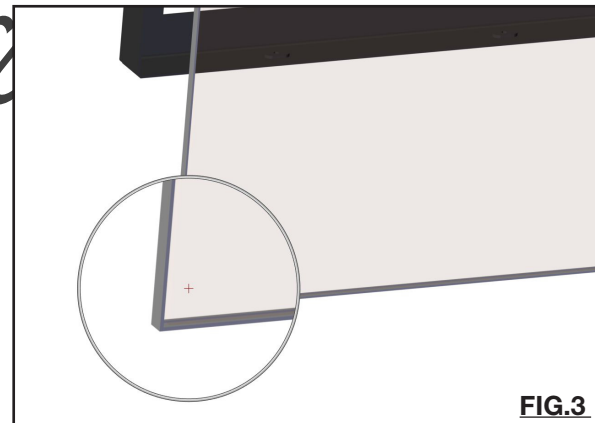

FIG.3
- E. Center and apply gasket to the edge of glass. Ensure gasket is a continuous loop around the perimeter of the replacement glass. **(FIG. 3)**
- C.** Remove screws from lower side brackets and remove the side upper panels (FIG.3)
- D.** Slide top panel into smoke chamber and install the 4 brackets removed in Step C. (FIG.3)